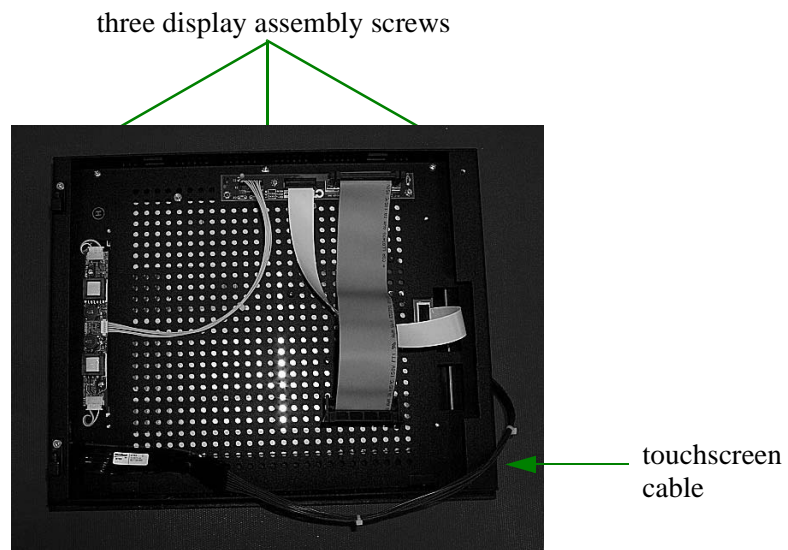
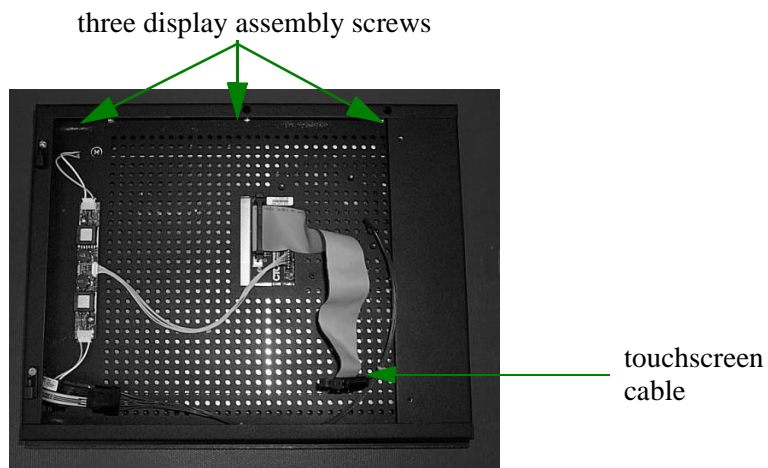

Figure 3: Philips (12" Unit) Display Assembly Cable Locations
Figure 4: Sharp (15" Unit) Display Assembly Cable Locations
11. Remove the three screws securing the display assembly to the bezel. Refer to figure 3 for a Philips (12" unit) display or figure 4 for a Sharp (15" unit) display.
3. Secure the display assembly to the bezel using the three screws removed in step 11 of the *Opening the PowerStation* section. Refer to figure 3 for a Philips (12" unit) display or figure 4 for a Sharp (15" unit) display.